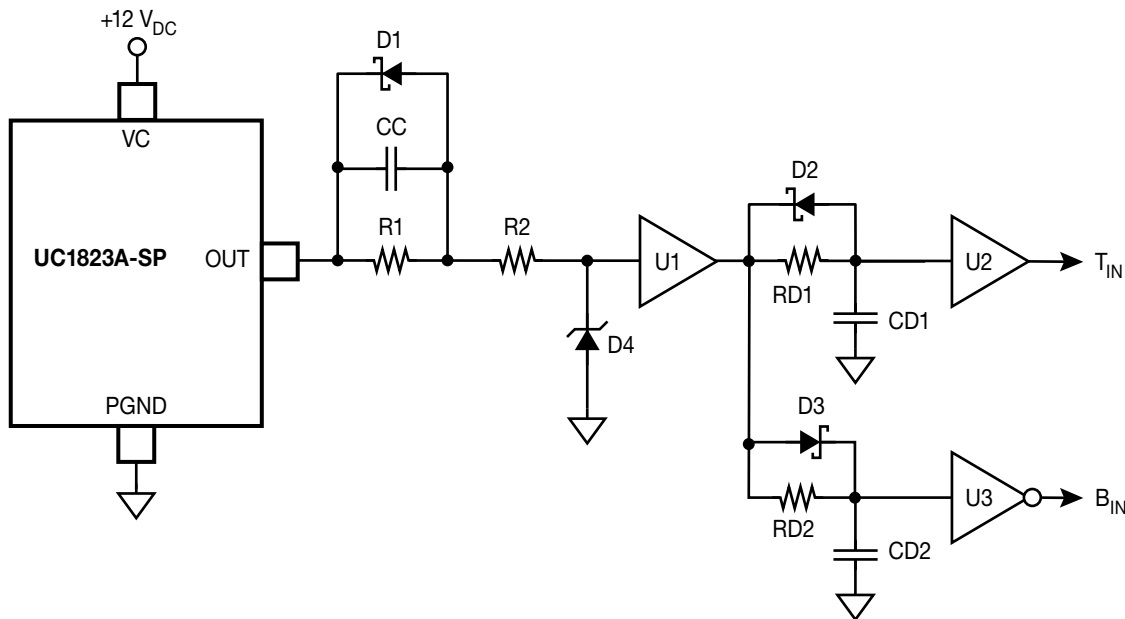
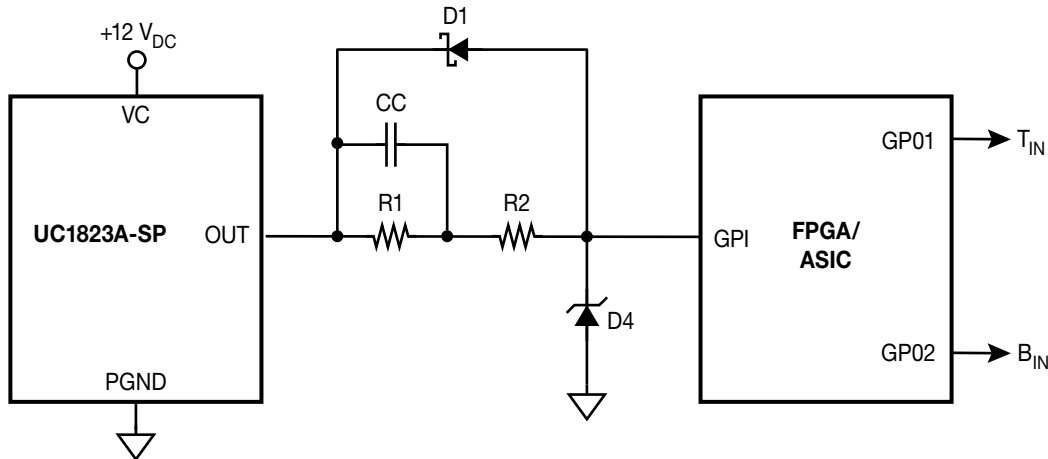
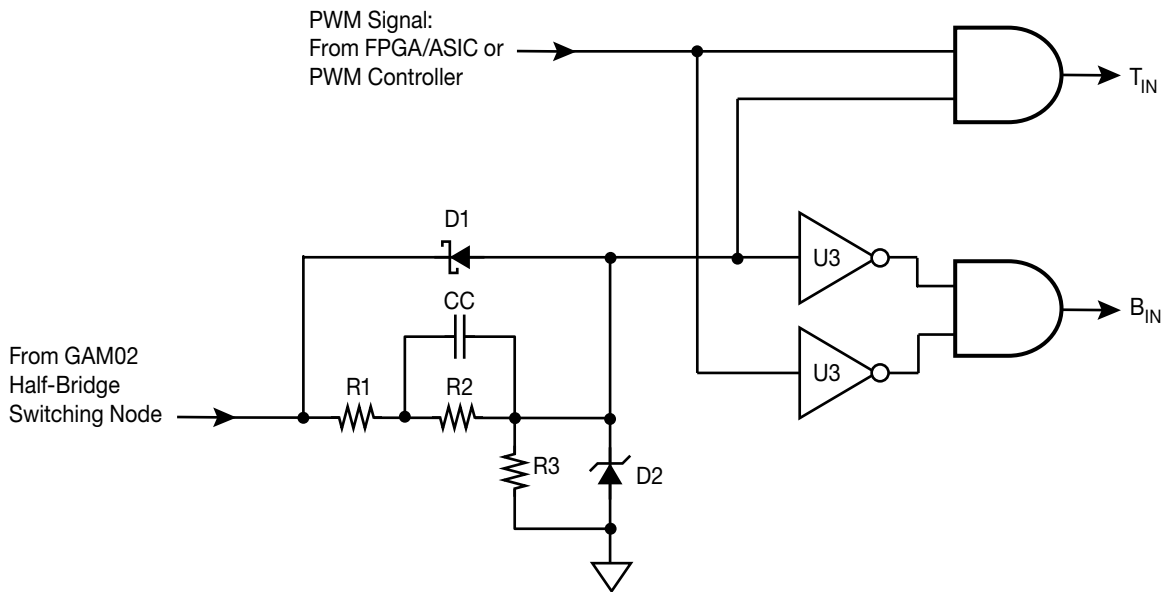

Figure 14. Zener Diode Logic Input Voltage Clamp Circuit and Dead Time Delay Circuit
Figure 15. Zener Diode Logic Input Voltage Clamp Circuit with ASIC/FPGA Two-Phase Clock (With Dead Time) Generator
Figure 16. Adaptive Dead Time Control for Cross-Conduction/Shoot-Through Avoidance
A Zener diode may be used to clamp the B_{IN} and T_{IN} logic inputs of the FBS-GAM02-P-R50 in order to interface the module to a high output voltage level PWM controller, as shown in Figure 14. The output of the UC1823A is a totem-pole configuration, and the output switches between $0 V_{DC}$ and $12 V_{DC}$ as logic 0 and logic 1, respectively. The transition times between logic states for a 1000 pF load are typically 20 ns, but much faster with lighter loads.
The same Zener diode clamping circuit as shown in Figure 14 may be used to clamp the output of the UC1823A to a lower voltage level in order to present it to an ASIC/FPGA in order to generate the requisite two-phase clock signals for the B_{IN} and T_{IN} logic inputs of the FBS-GAM02-P-R50. A typical circuit for this circuit implementation is shown in Figure 15:
In the circuit of Figure 15 all the high-speed and high accuracy analog functions associated with the PWM controller are performed off-chip from the FPGA/ASIC. The programmable logic of the FPGA/ASIC and the associated firmware code is responsible for generating the two-phase clock with dead times required by the B_{IN} and T_{IN} inputs of the FBS-GAM02-P-R50.
In circuits shown in both Figure 14 and 15 the dead times required by the FBS-GAM02-P-R50 to avoid cross-conduction/shoot-through are generated in a “brute force” manner either with analog components (Figure 14) or with programmable logic and firmware in an FPGA/ASIC (Figure 15). There is another way to obtain the optimum dead times for the FBS-GAM02-P-R50 device – adaptive dead time control, as shown in Figure 16.
Adaptive dead time control utilizes the state of the switching node (SN) of the GAM02 in order to allow the B_{IN} or T_{IN} signals (in this case the B_{IN} signal is the simple logical inverse of the T_{IN} signal) to be applied to the B_{IN} or T_{IN} logic inputs of the FBS-GAM02-P-R50 in order to avoid dynamic cross-conduction/shoot-through in the low- and high-side output power HEMTs. If the switching node of the FBS-GAM02-P-R50 is “low” (i.e. at PGND) then the low-side switch is turned ON, or in the process of turning OFF, and the high-side switch must not be turned ON (i.e. a logic 1 applied to the T_{IN} input). Similarly, if the switching node is “high” (i.e. at V_{DD}), then the high side switch is turned ON, or in the process of turning OFF, and the low-side switch must not be turned ON (i.e. a logic 1 applied to the B_{IN} input). However, if the B_{IN} input is logic 0 and the switching node is “high” (i.e. the high-side catch Schottky conducting load current) then the T_{IN} input may be set to logic 1 to turn on the high-side driver. This same situation applies to the high-side driver: If the T_{IN} input is logic 0 and the switching node is “low” (i.e. the low-side catch Schottky is conducting load current) then the B_{IN} input may be set to logic 1 to turn on the low-side driver. The circuit shown in Figure 16 relies on a similar voltage clamping scheme for the switching node as was utilized in Figures 14 and 15, with the exception that the power supply V_{DD} , and subsequent range of the switching node, could be much higher than $12 V_{DC}$ – in fact up to $50 V_{DC}$ for the FBS-GAM02-P-R50. So greater care must be exercised in the selection of the clamping components to avoid excessive power dissipation in them, and the associated decrease in circuit efficiency. It is strongly recommended to simulate the circuit once the components have been selected to ensure that the proper clamping level is achieved and that the power dissipation of the clamp circuit is kept to a reasonable level so as not to affect overall circuit operating efficiency.